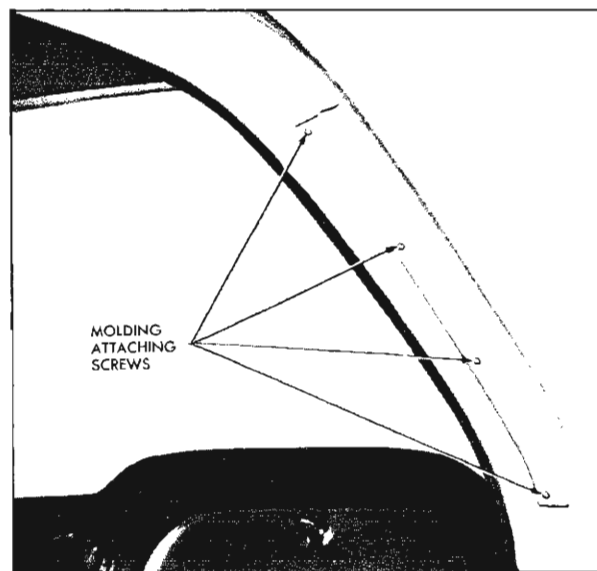

Fig. 11-14 Windshield Pillar Drip Moldings
1. On "17", "19", "27" and "35" styles remove screws securing drip molding (Fig. 11-14) and remove molding.